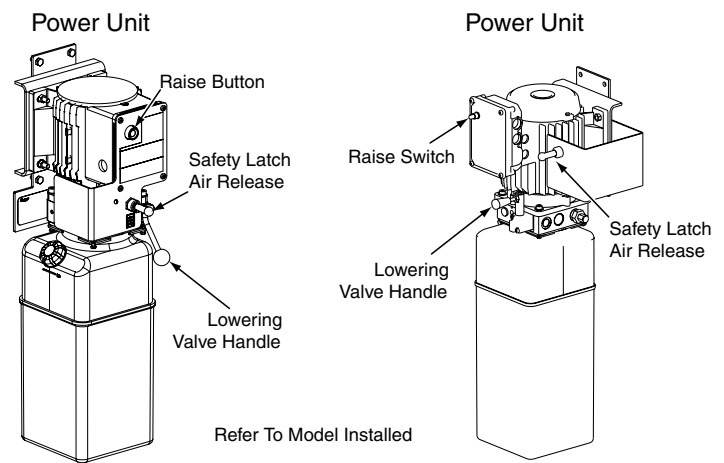

Fig. 3
4. **Lift Controls:** The Raise Switch, Safety Latch Air Release, and Lowering Valve are designed to close when released, Fig. 3. **Do Not** block open or override self-closing feature.
- A. Push RAISE switch on power unit, Fig. 3.
- D. Pull LOWERING valve handle to lower, Fig. 3.